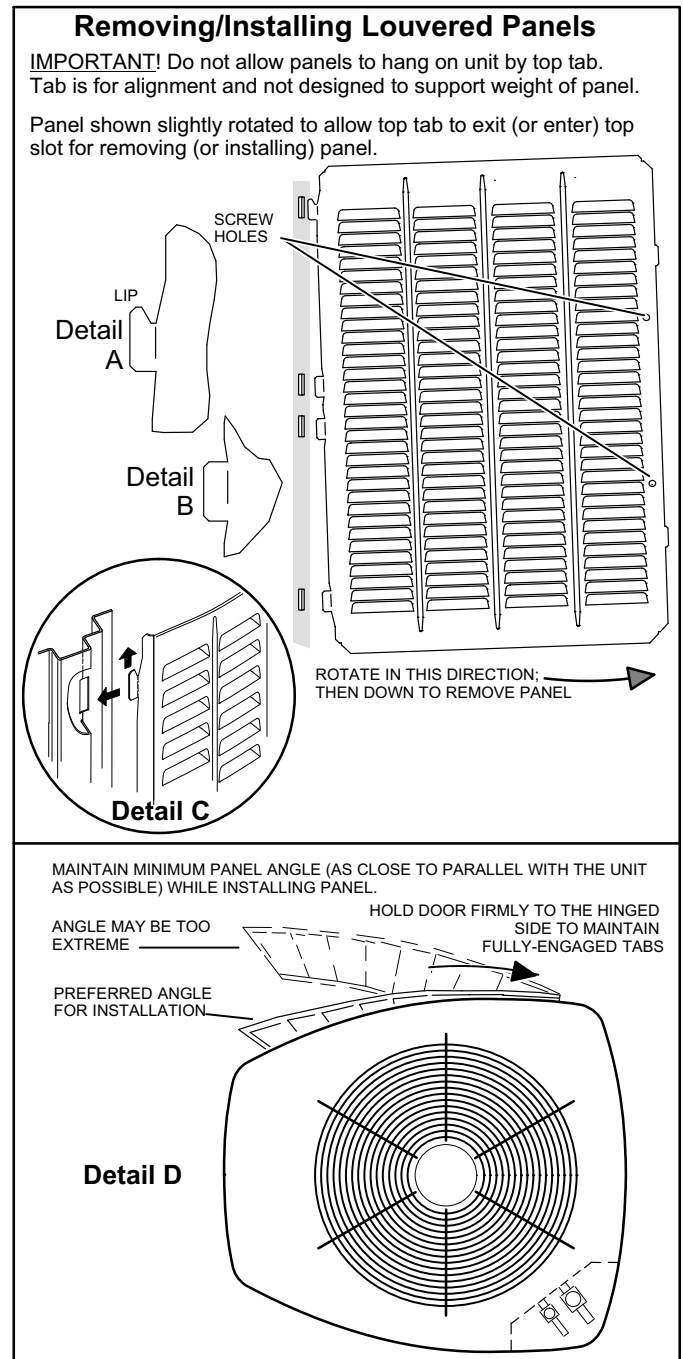

FIGURE 1
1. Remove 2 screws, allowing the panel to swing open slightly (see figure 1).
2. **Hold the panel firmly throughout this procedure.** Rotate bottom corner of panel away from hinge corner post until lower 3 tabs clear the slots (see figure 1, Detail B).
3. Move panel down until lip of upper tab clears the top slot in corner post (see figure 1, Detail A).
Position and Install Panel — Position the panel almost parallel with the unit (figure 1, Detail D) with the “screw side” as close to the unit as possible. Then, in a continuous motion:
- Slightly rotate and guide the lip of top tab inward (figure 1, Details A and C); then upward into the top slot of the hinge corner post.